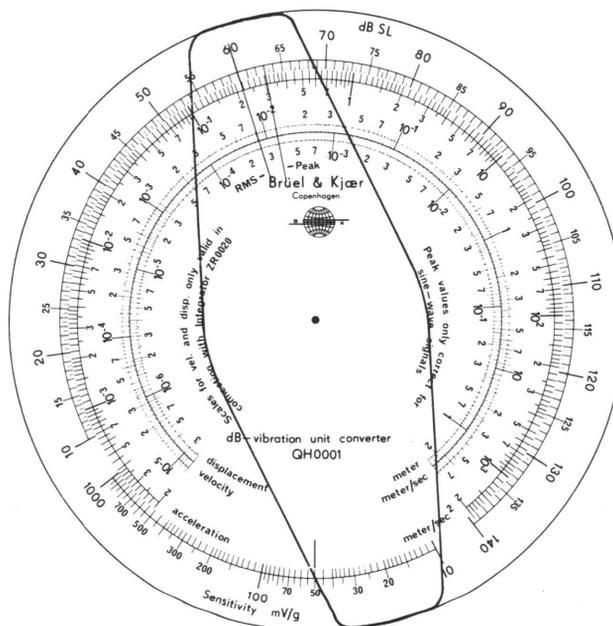

Fig.3.5. Slide Rule QH 0001 set for an accelerometer sensitivity of  $50 \text{ mV/g}$  and an SPL of  $60 \text{ dB}$
The vibration amplitude may only be calculated in the same parameter as that set on the Integrator, and the Slide Rule must not be used to convert from one parameter to another. To determine another parameter, the Integrator must be set and the 2209 calibrated for that parameter and new measurements made. The circular Slide Rule QH 0001 (shown in Fig.3.5) provided with the Integrator should be used to make the calculations as follows:
1. After calibrating the 2209 as in Section 3.5.5., set the isolated red line on the sliding scale adjacent to the accelerometer sensitivity in mV/g on the outer scale of the Slide Rule. (It is shown adjacent to 50 mV/g in Fig.3.5.)
2. Turn the cursor so that its RMS line lies over the value of the 2209 meter reading (M) in dB on the outer dB SL scale of the Slide Rule.